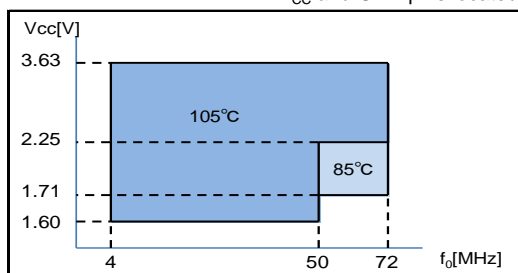

Figure 1: The upper limit of Operating temperature and the related conditions
① ② ③ ④⑤⑥⑦
①Model ②Output (C:CMOS) ③Frequency ④Supply voltage
⑤Frequency tolerance ⑥Operating temperature ⑦Internal identification code ("A" is default)
④Supply voltage Refer to Figure 1
*Figure 1 is on the next page
⑤Frequency tolerance / ⑥Operating temperature